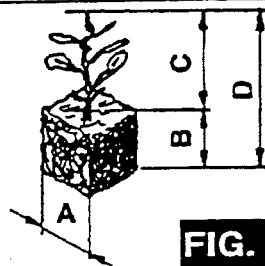

FIG. 7.2
- cubic, from 5x5 to 6x6 cm (fig. 7.2) using the special 6x6 drilling cups, optional (see chapter 26.2).